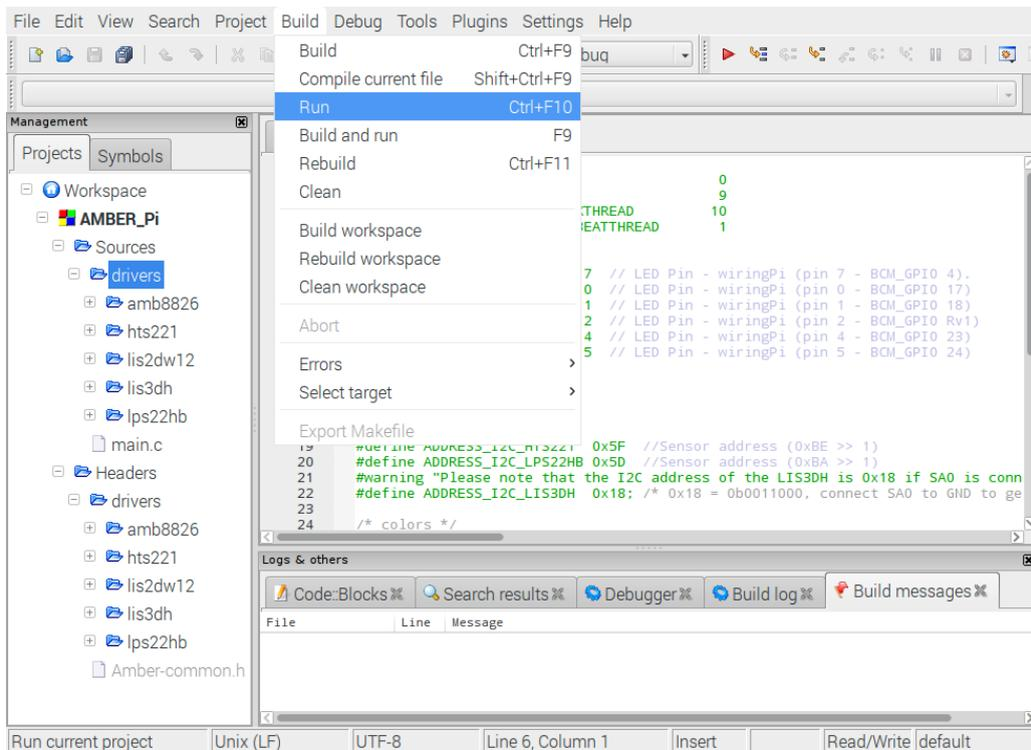

Figure 8: Run the default application
1. Please press **Build** → **Run** to run the application on the Raspberry Pi (see figure 8).